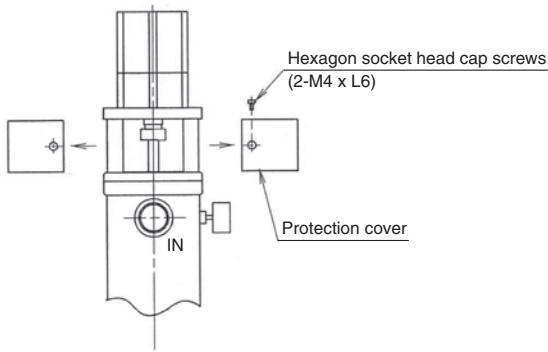

Fig. 1
- 2-1. Remove the cover [Two M4 hexagon socket head cap screws See Figure 1]